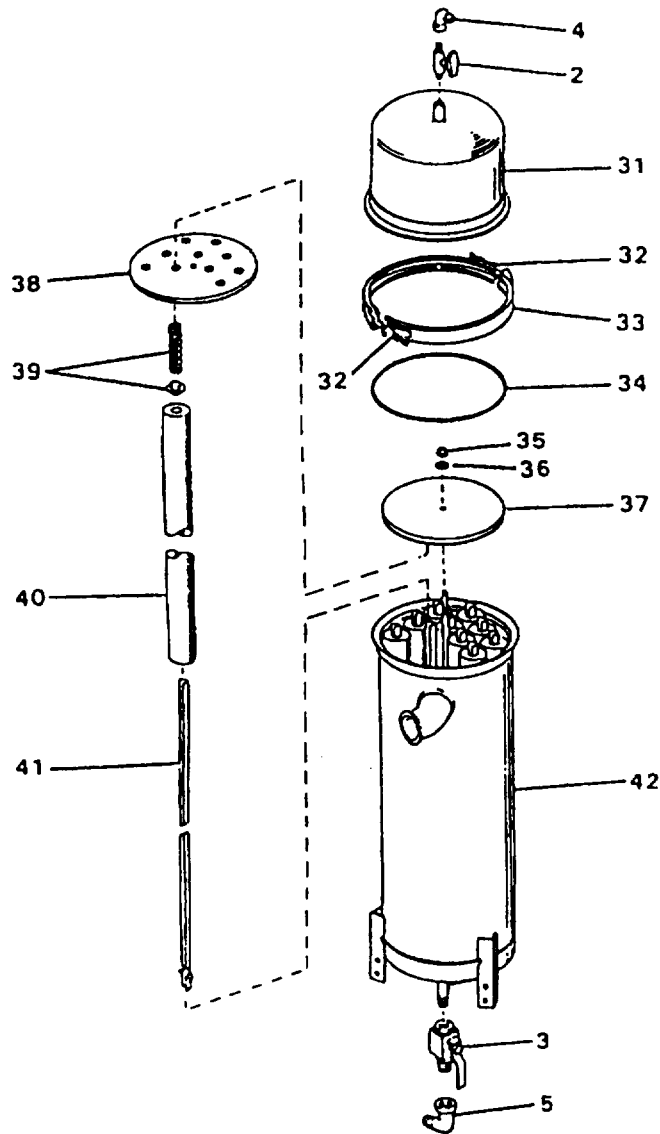

Figure 4-48. Cartridge Filter (Sheet 3 of 3)
- d. Install cover (31) and clamp (33). Close and tighten T-bolts (32) on clamps.
- e. Install brackets (30 and 29, Figure 4-48, sheet 1) and secure with 12 lockwashers (28), nuts (27), washers (26) and capscrews (25).
- a. Place cartridge filter assembly in position and secure with capscrews (22), lockwashers (23), and washers (24).
- b. Install gaskets (20 and 21) on pipe section (19) and connect pipe section (19) to filter assembly and external piping with clamp (17) and clamp (18).
- c. Secure pipe section (19) to floor bracket with capscrews (12), lockwashers (13), washers (14), nuts (15) and washers (16).
- d. Install gaskets (8) on pipe section (7) and butterfly valve (6A) and secure with clamps (6) to external piping and filter assembly.